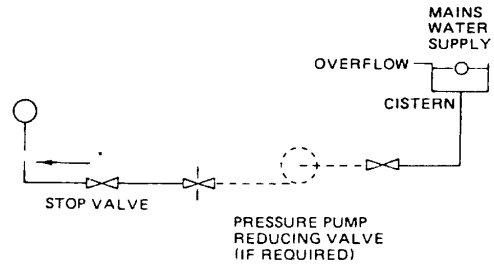

Figure 6 FULLY PUMPED SEALED SYSTEM
- ii) Where access to a make-up vessel would be difficult by using the mains top up method or a remote automatic pressurisation and make-up unit as illustrated in Fig 6 METHODS 1 & 2.
The system shall be fitted with a filling point at low level which incorporates a stop valve to BS1010 and a double check valve (approved by the National Water Council) to be fitted in this order from the system mains. Refer to Fig 6 METHOD 1.
The system can be filled using a sealed system filler pump with a break tank or by any other method approved by the local Water Authority. Refer to FIG 6 and BS6798 1987. Remove pump and flush out the system thoroughly with cold water. Re-fit the pump. Fill and vent the system until the pressure gauge registers 1.5 bar (22.5lbf/in2), examine for leaks. Raise the pressure until the safety valve lifts. This should occur within  $\pm 0.3$  bar of the pre-set lift pressure of 3 bar. Release water to attain the correct cold fill pressure.